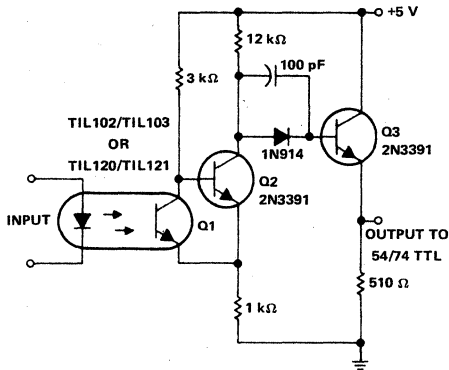
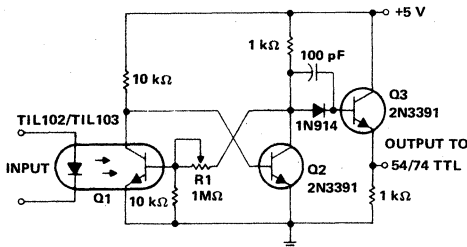

FIGURE 8. Optocoupler with Discrete-Component Schmitt Trigger for Driving 54/74 TTL
FIGURE 9. TIL102/TIL103 in a Schmitt Trigger for Driving 54/74 TTL
FIGURE 8. Two Counters with Identical Performance. Counter (A) Uses TIL306 Devices; Counter (B) Does not. Note how many less components are needed in the counter using TIL306 devices.
Figure 8 is a photo of two counters with identical performance illustrating the difference in component count between a conventional counter consisting of SN7490, SN7475, and SN7447 TTL integrated circuits, resistors, with a display using TIL302 devices, and a counter using TIL306 devices. Both counters are specified to operate up to 15 MHz using a six-digit readout. The counter using
trigger as shown in Figure 8. For this circuit, regeneration or positive feedback is provided by the coupled emitters of Q1 and Q2. The output of this circuit is noninverting and is compatible with TTL logic.
Another Schmitt trigger utilizing discrete components that makes use of the base connection of the TIL102/TIL103 is shown in Figure 9. In this circuit, positive feedback is provided from the collector of Q2 to the base of Q1. Resistor R1 limits the base current to Q1 and keeps the device off when there is no signal at the emitter. As with the circuit in Figure 8, the output of this circuit is noninverting and compatible with TTL levels.